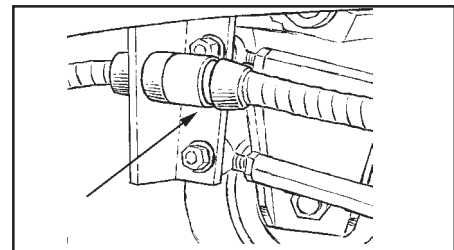

Figure 29
10. Attach the solution hose quick connect coupling to the machine (see figure 29).